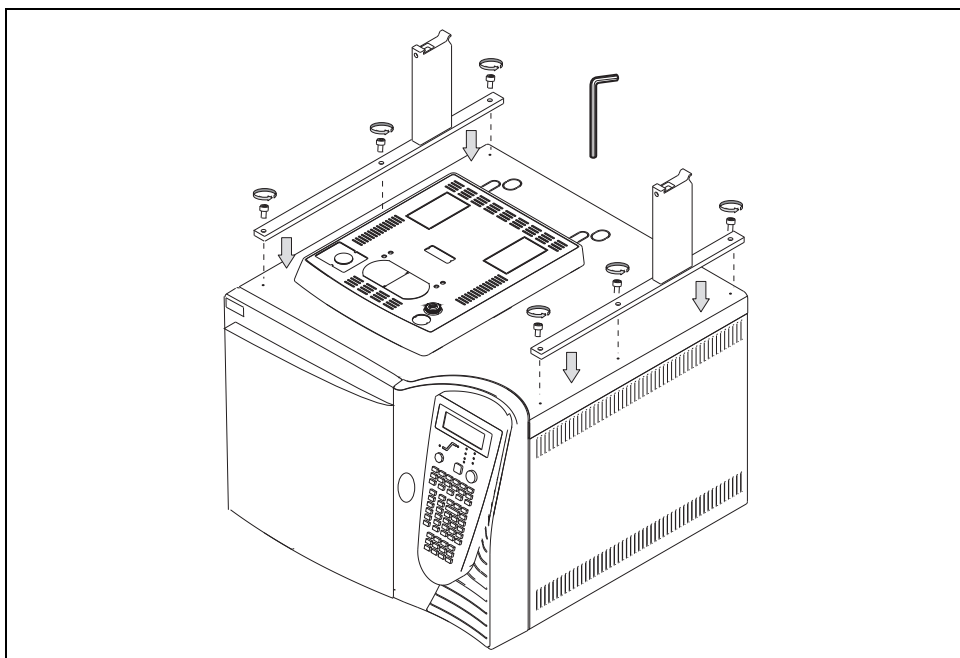

Figure 3-2. Sampler Supports Installation on a TRACE GC Ultra (1)
3. Mount each sampler support on the GC paying attention to have the support leg turned toward the back of the GC as shown in Figure 3-2.